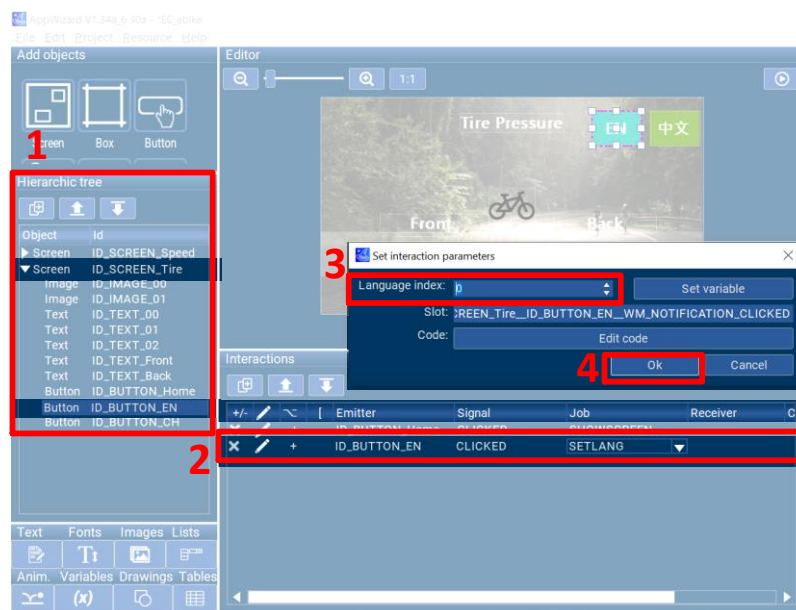
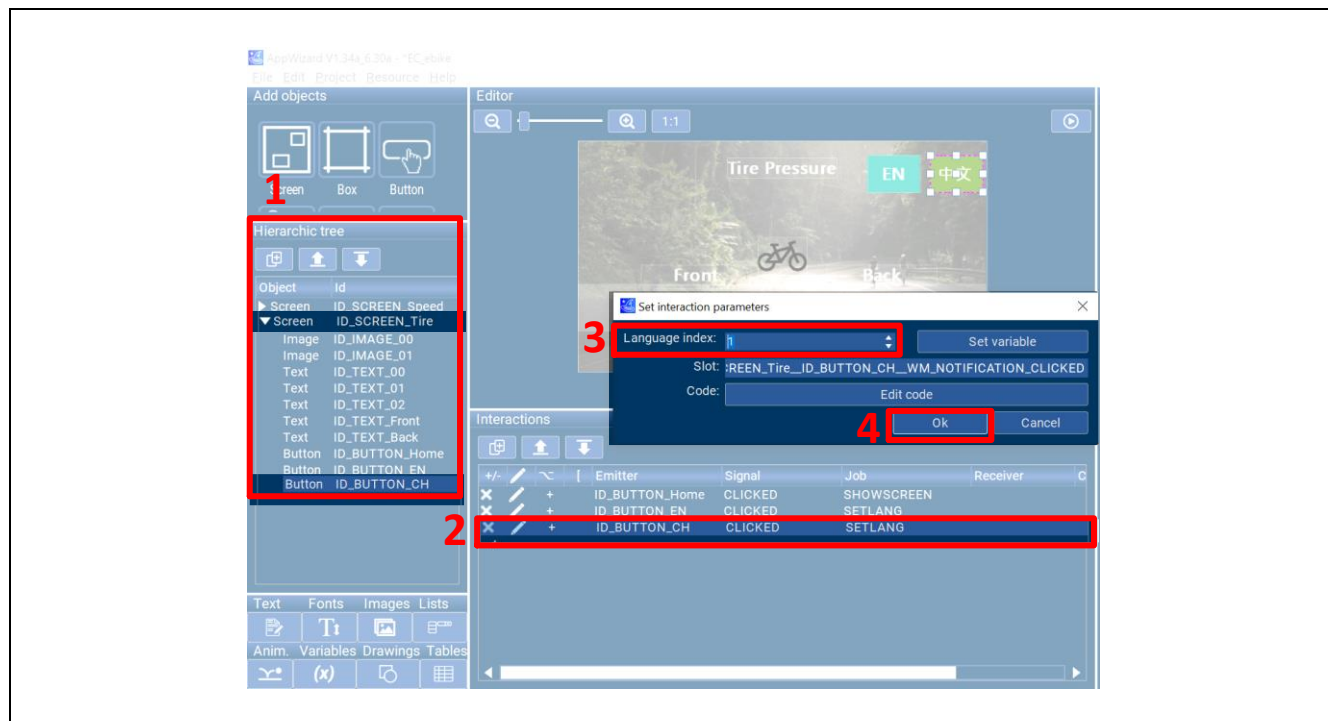

Figure 1-54 Interaction – Language Switching
Figure 1-55 Interaction – Language Switching
- 2) Use buttons for language switching. Click on ID_BUTTON_EN under ID_SCREEN_Tire and follow the steps as shown in Figure 1-54. This completes the setup for displaying English when the "EN" button is pressed. Similarly, set up the button to switch back to display Chinese, as shown in Figure 1-55.